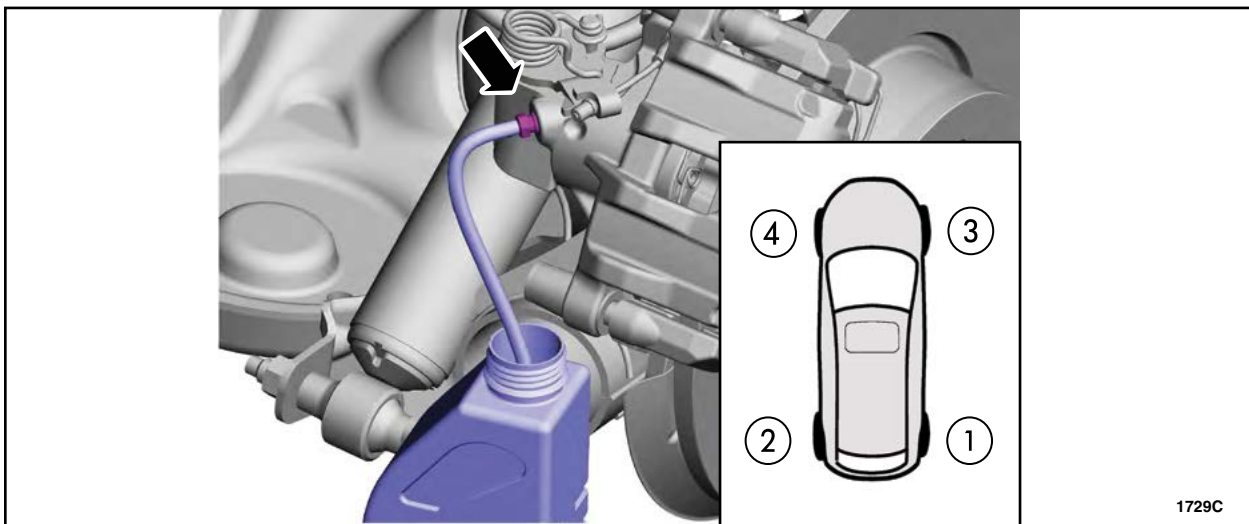

FIGURE 15
6. Loosen all four caliper bleeder screws in the order indicated. See Figure 15. Allow approximately 10 fl oz (295.7 mL) to drain from each bleeder screw, **one wheel at a time**.